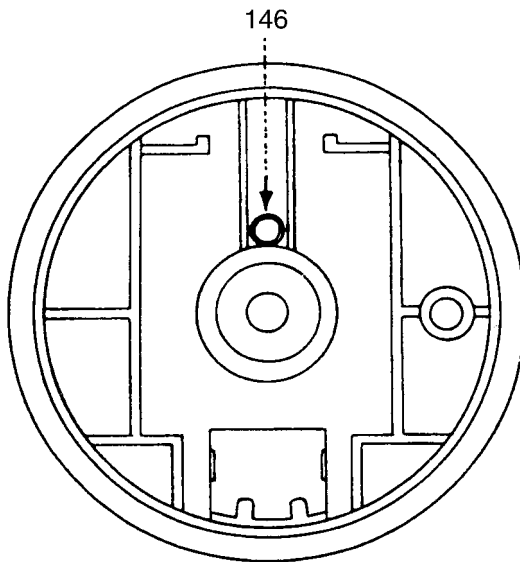

Fig. 96
- Place pressure spring 146 onto the handwheel boss so that its rear side fits into the guide groove (fig. 96).